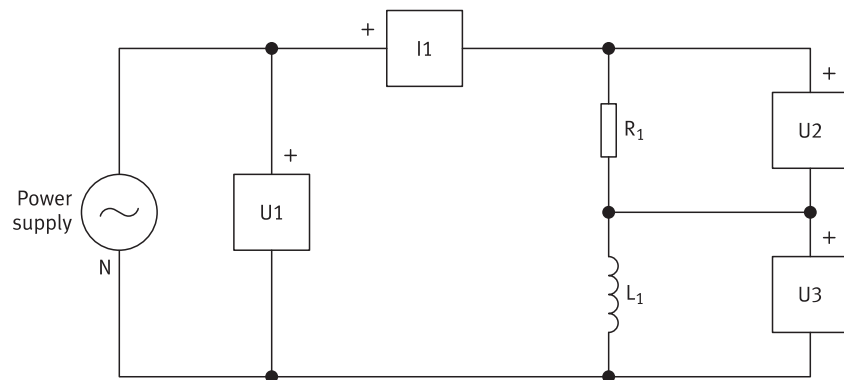

Figure 18: Simple resistive-inductive circuit.
2. On the Resistive Load module, set the resistance of resistor R_1 to the value shown in Figure 18. While doing this, observe that the values in the Phasor Data Table change accordingly to reflect the change in the circuit impedance.